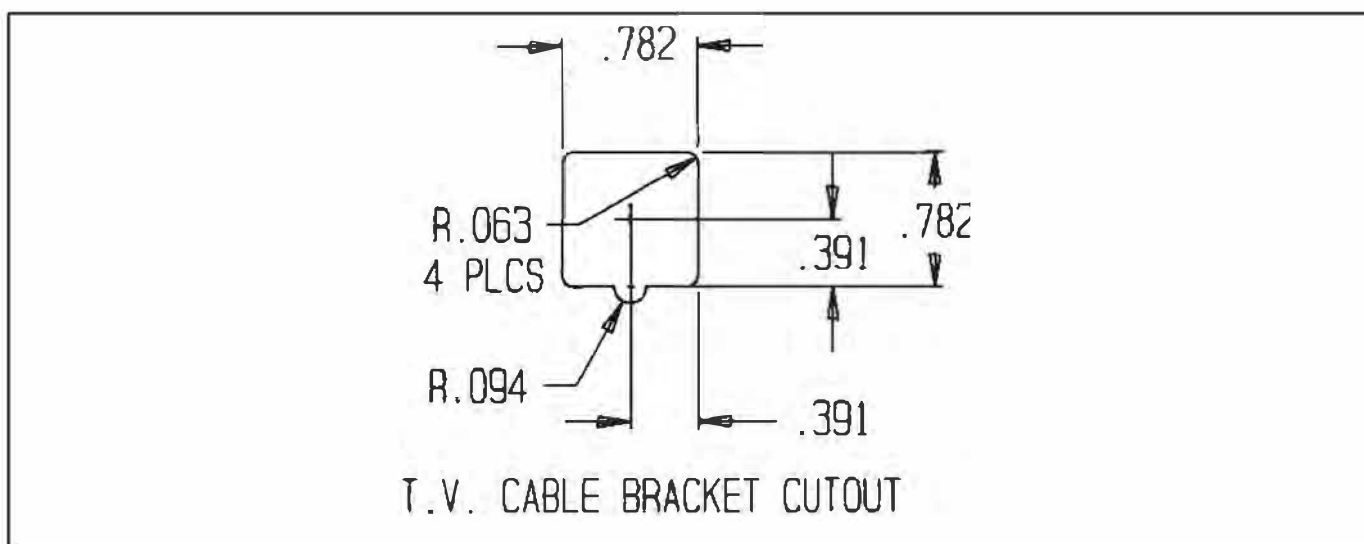

Figure 18
**STEP 4.** Fabricate T.V. cable bracket using 0.090 - 0.125 in. sheet metal (**See Figure 18**) for the adjuster housing cutout dimensions. If you use the thicker stock a chamfer will be required on two sides of the cable mounting cutout to allow the lock tabs to expand properly. The T.V. cable adjuster requires a pull of about 18 lbs. to ratchet out, so try to make the mounting bracket as rigid as possible. If the mounting bracket flexes the T.V. pressure will not be consistent.